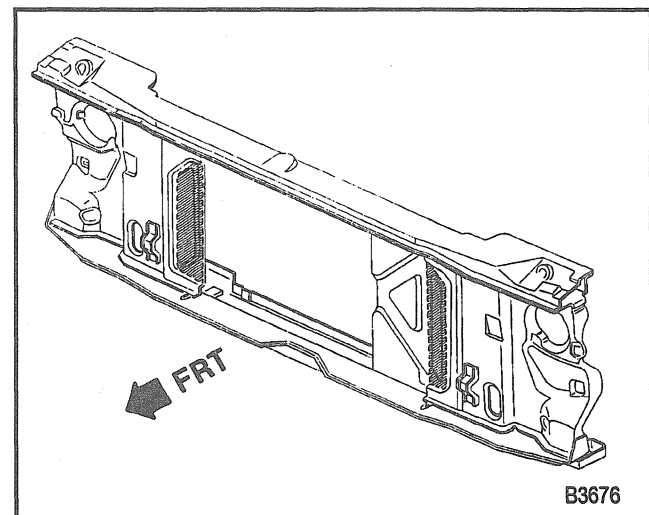

Figure 22—Radiator Support
6. Fender to the radiator support bolts (Figure 22).